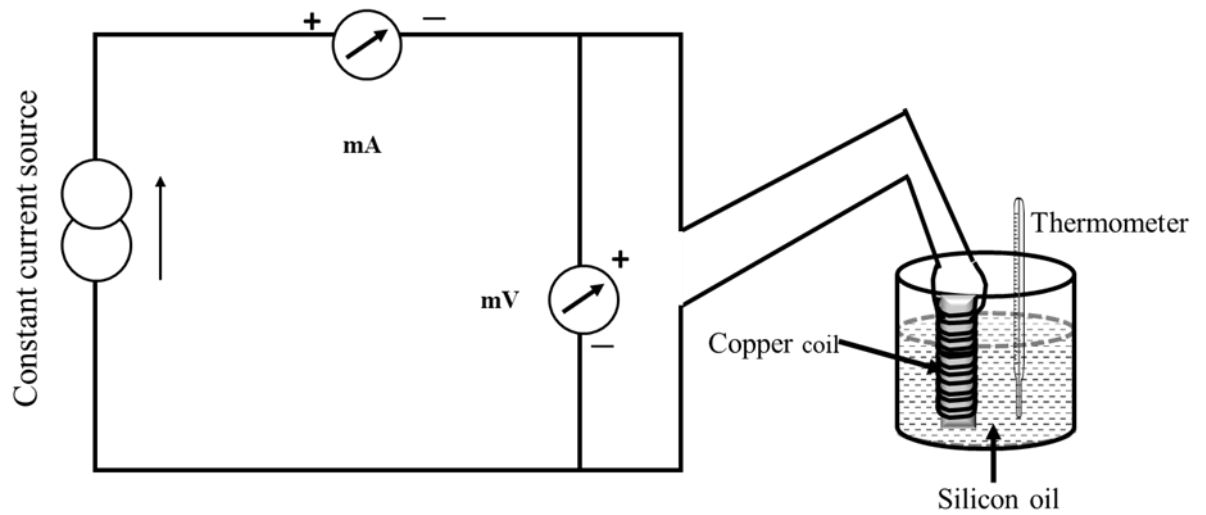

Figure 4.1. Experimental setup for determination of Fermi Energy
- The red connector of the copper coil (on the red wire) is connected to +I, and the black connector (on the white wire) is connected to +V (Figure 4.1). Similarly, the red connector of the copper coil (on the other red wire) is connected to -I and the black connector (on the black wire) to -V of the main unit.
- The graph (Figure 4.1) between resistance and temperature is drawn, and the slope S is calculated. By substituting the values in the given formula, the Fermi energy of copper is measured.